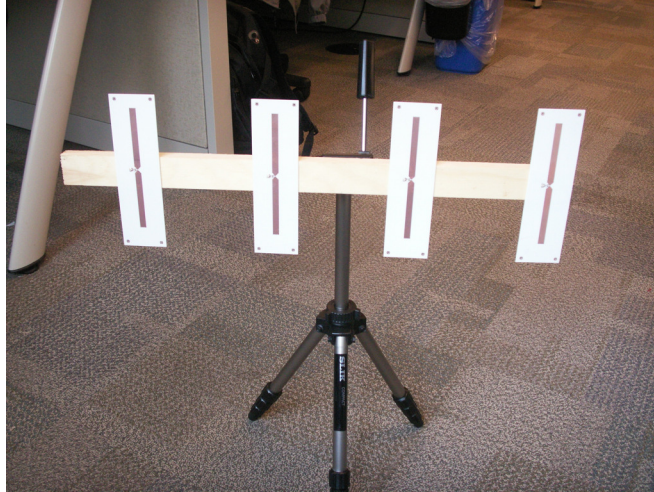

Figure 1: Array mounting.
2. Mount the array beam on the pedestal. The setup should resemble Figure 1, but should only contain two elements.
2. Mount the array on the pedestal. You should have something similar to Figure 1.